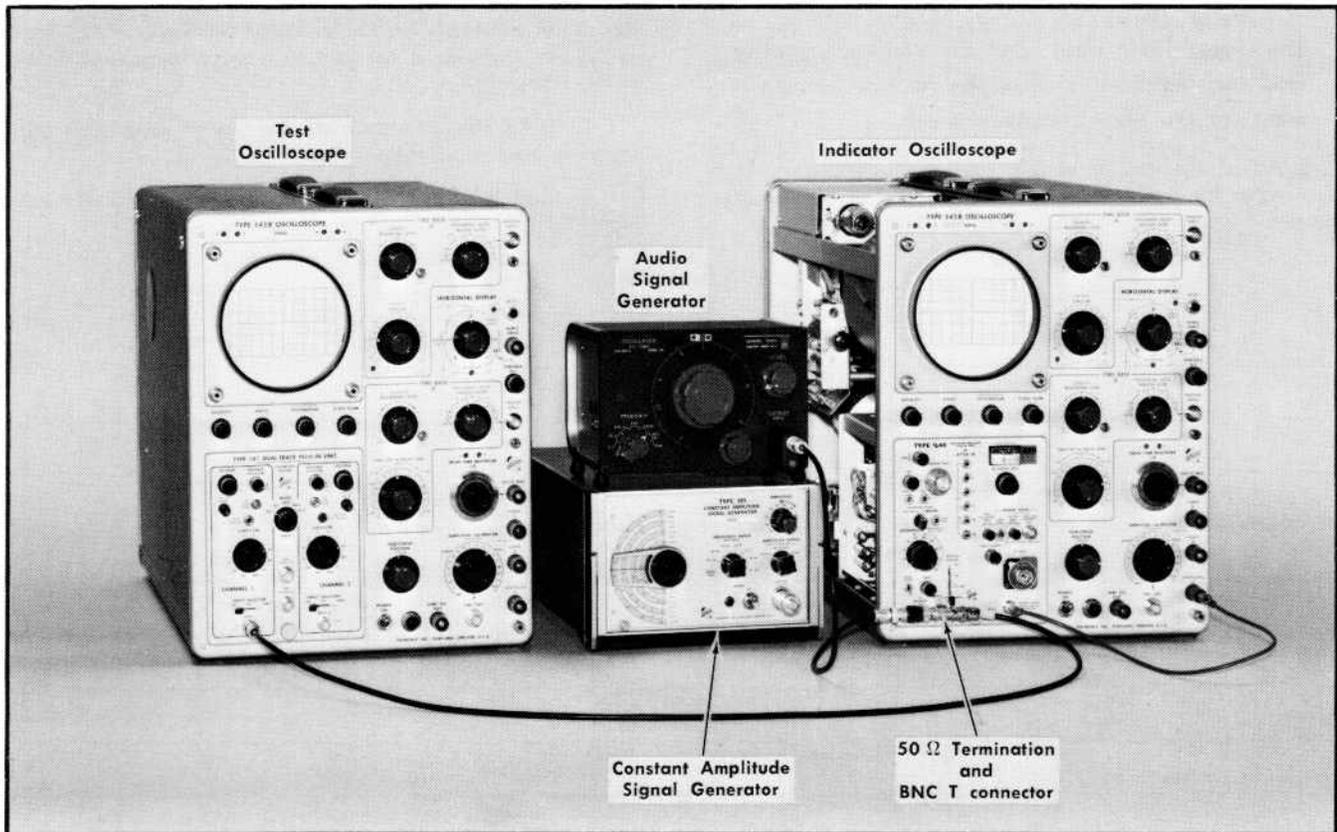

Fig. 5-19. Equipment setup to check video bandpass.
- a. Set up the equipment as shown in Fig. 5-19.